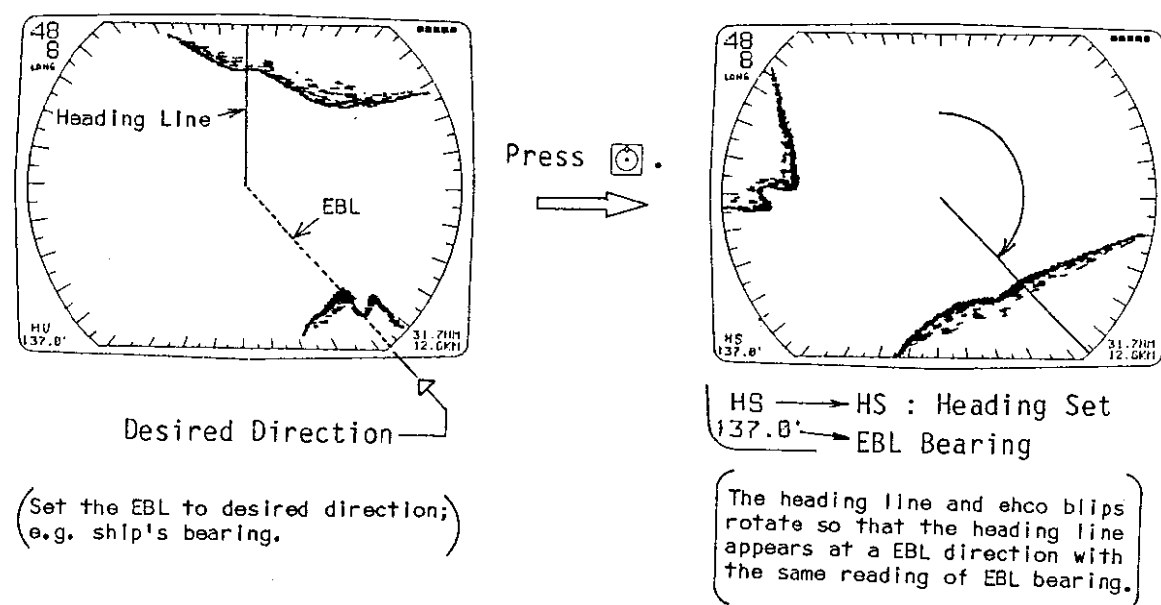

Fig.2-7 Heading-set Mode (Gyrocompass not connected)
- 2) Press the  touchpad. The heading line will move to the EBL direction as shown in Fig.2-7.